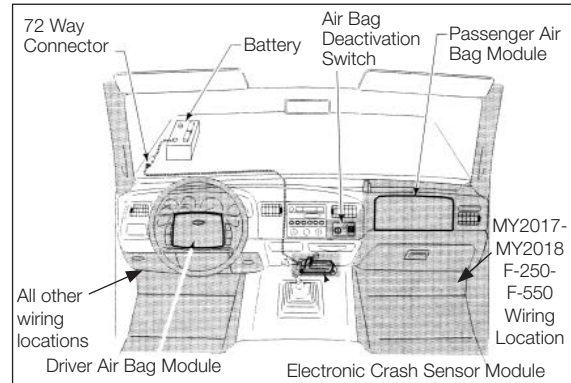

Figure 8
2. Locate a position in the cab for mounting the PTO switch and mounting bracket. The shaded area in **(Fig. 8)** shows the Occupant Protection Zone of the deployed air bags that are available in these vehicles.